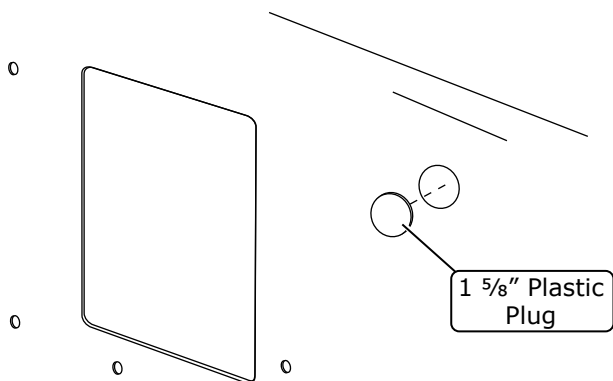

Figure 2
4. Cut out the grille as shown in Figure 2, below.
3. Install a 1 5/8" plastic plug into the firewall (See Figure 2, below).